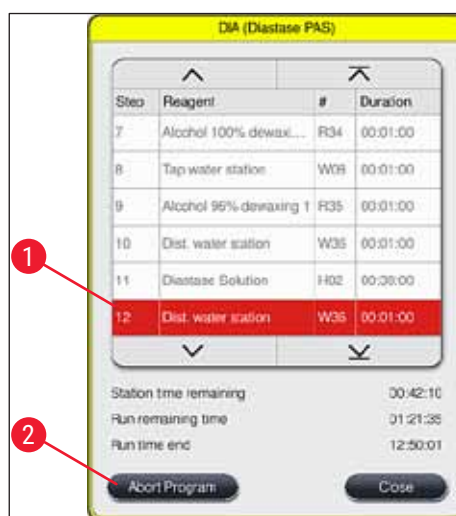

Fig. 88
2. A list of program steps (→ "Fig. 88") appears; the current step is marked in red (→ "Fig. 88-1").